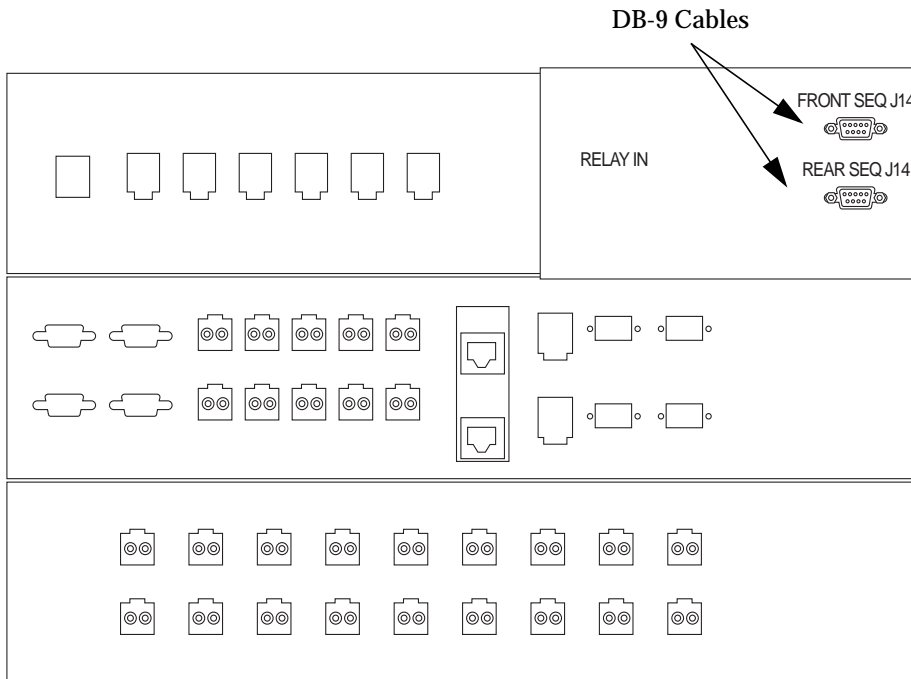

FIGURE B-2 Connecting the Front and Rear Power Sequencers to the Base Cabinet Master Service Panel
- 5. Locate the two DB-9 to DB-9 cables that are loosely tied off close to the relay panel on the back of the master service panel. Connect the cable labeled Front Seq J14 In to the FRONT SEQ J14 connection and the cable labeled Rear Seq J14 In to the REAR SEQ J14 connection on the back of the master service panel (FIGURE B-2).**
These cables enable the Storage Service Processor to recognize that the system is capable of a remote power-on and power-off sequence. FIGURE B-2 shows the back of the Base Cabinet master service panel and the location of the FRONT SEQ J14 and REAR SEQ J14 connections.